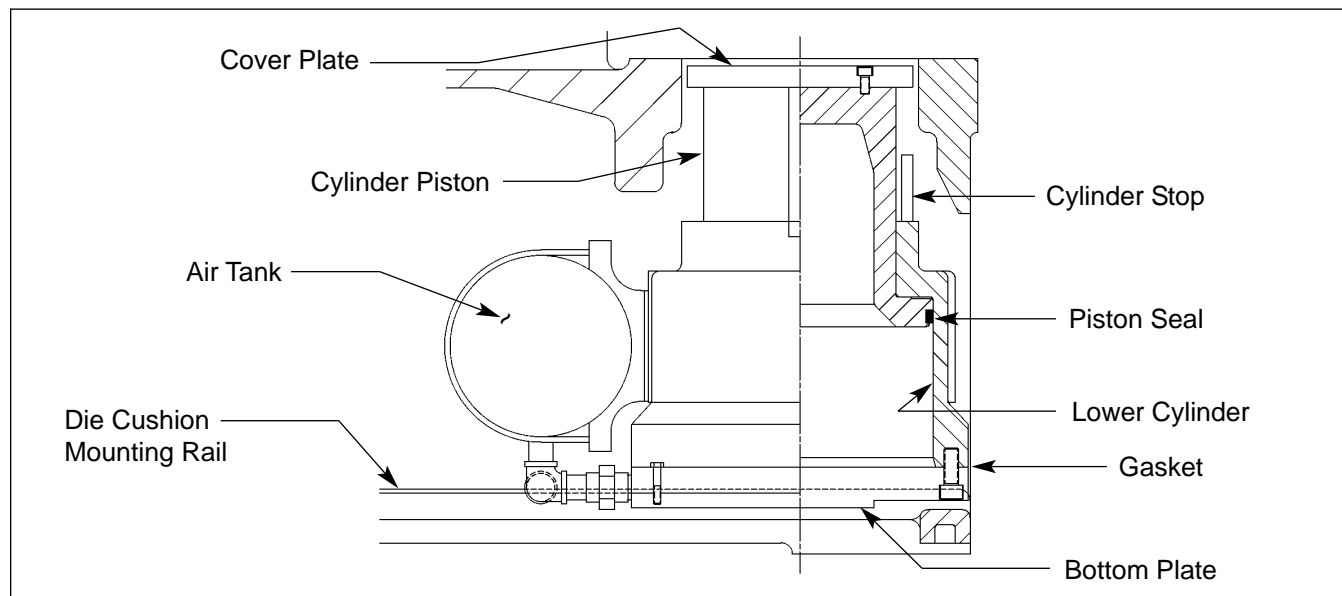

Figure 9E. Rail mounted die cushion.
4. Remove the cylinder stop from lower cylinder. (See Figure 9E.)